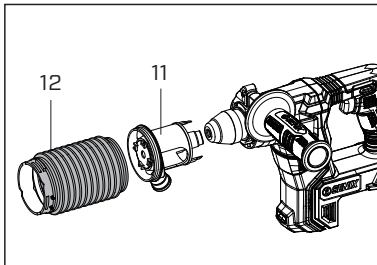

Fig.4
As an optional accessory, the Dust Cup(12) is intended to prevent dust from falling over when performing overhead drilling operations. Attach the Dust Cup(12) on the Dust Cup Holder(11). Then align and fit the Dust Cup Holder(11) on the spacer (Fig.4).